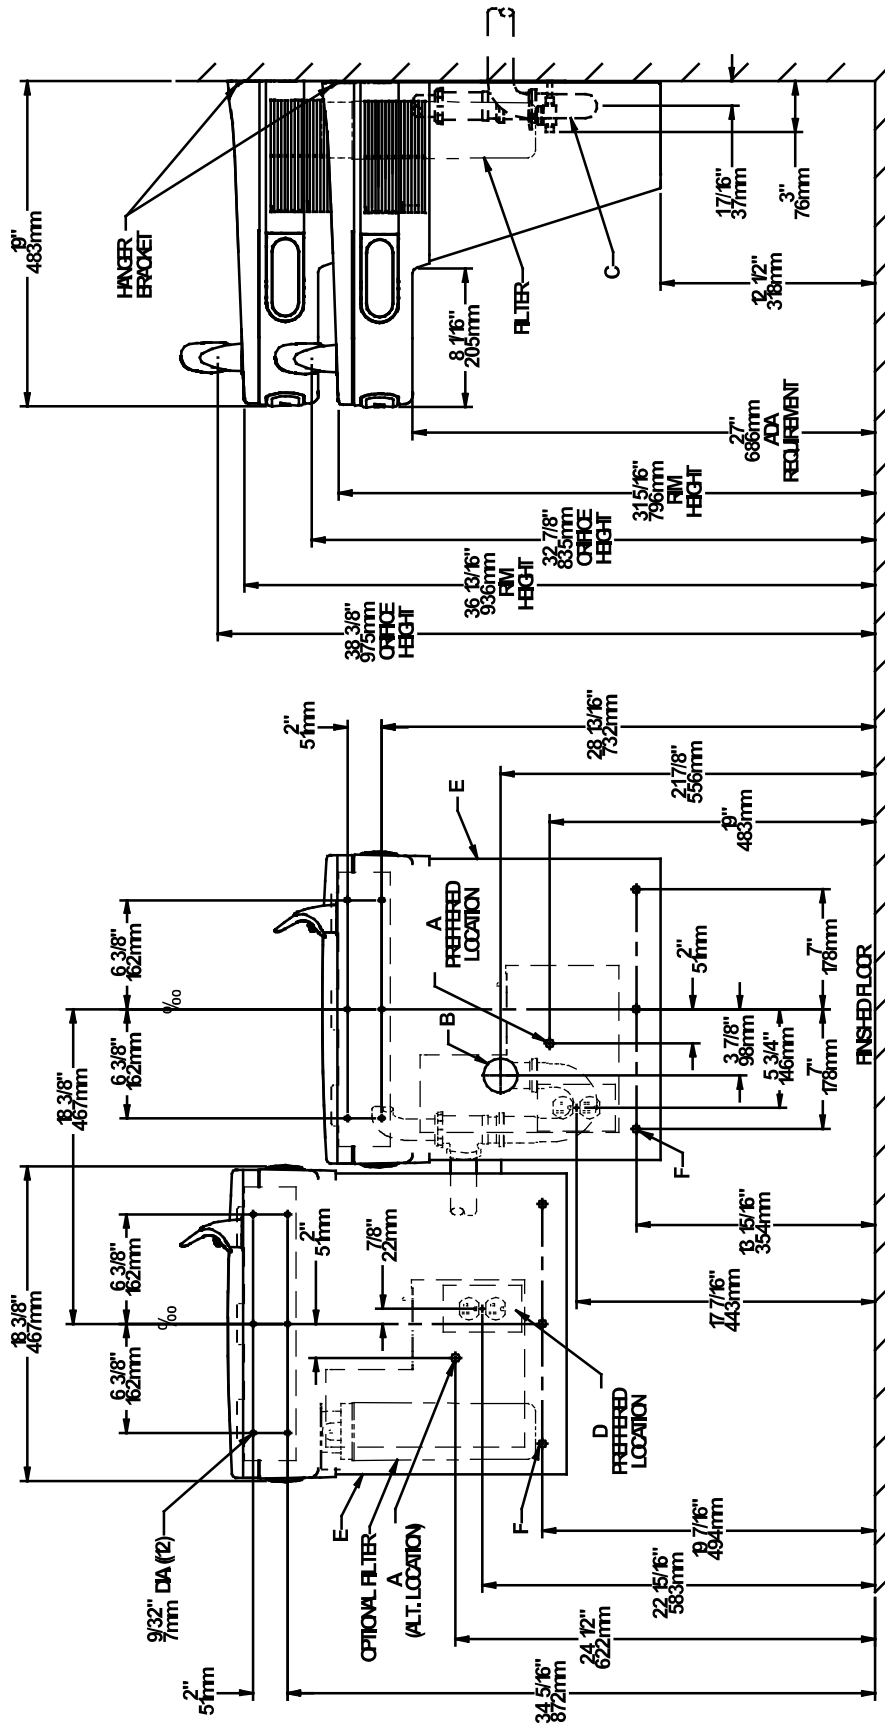

FIG. 2
- 1) Remove hanger brackets fastened to back of cooler by removing one (1) screw.
- 2) Mount the hanger bracket as shown in Figure 2 or 3.
- 3) Hang the cooler on the hanger bracket. Be certain the hanger bracket is engaged properly in the slots on the cooler back as shown in Figure 2 or 3.
- 4) Remove the four (4) screws holding the lower front panel at the bottom of cooler. Remove the front panel by pulling straight down and set aside.
- 1) Retire el soporte fijador que se encuentra conectado a la parte posterior del enfriador sacando un (1) tornillo.
- 2) Monte el soporte fijador de la manera descrita en Fig. 2 y 3.